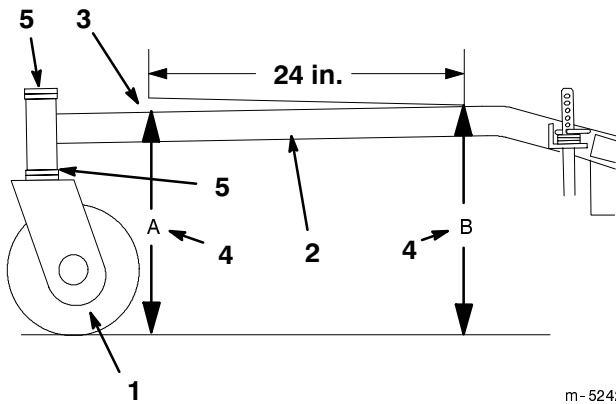

Figure 50
1. Measure out 24 inches on the carrier frame (Fig. 50).
2. Measure carrier frame height at location "A" (Fig. 50).
3. Measure carrier frame height at location "B" (Fig. 50).
4. The height at location "A" must be a 1/4-3/8 in. lower than location "B" (Fig. 50).
5. If the carrier frame is not correct, move caster spacers to make it a 1/4-3/8 in. pitch (Fig. 50). Move spacers from top or bottom to make the correct pitch.